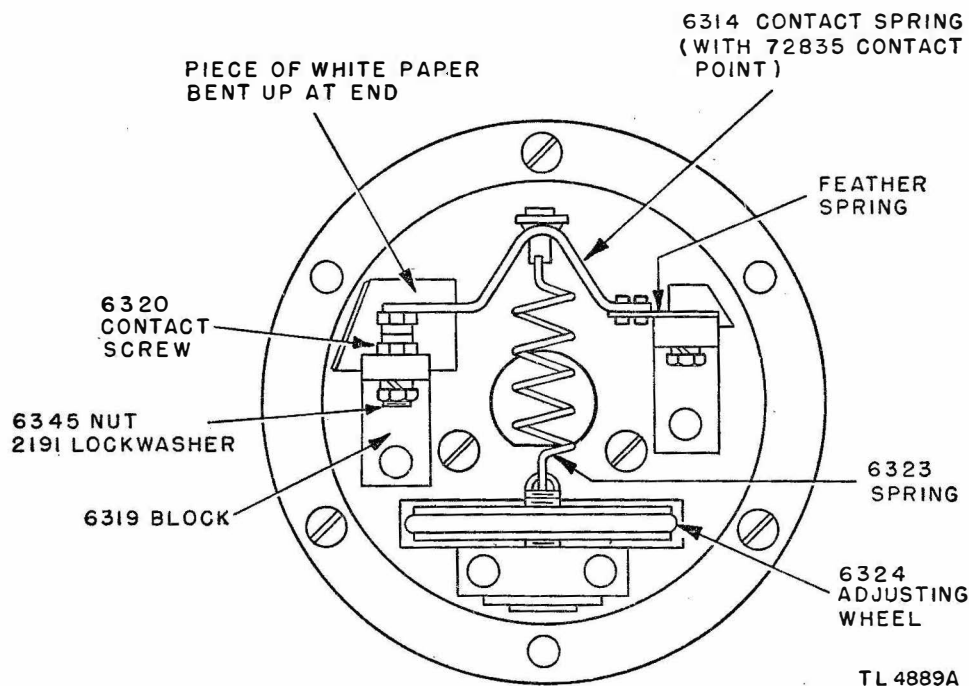
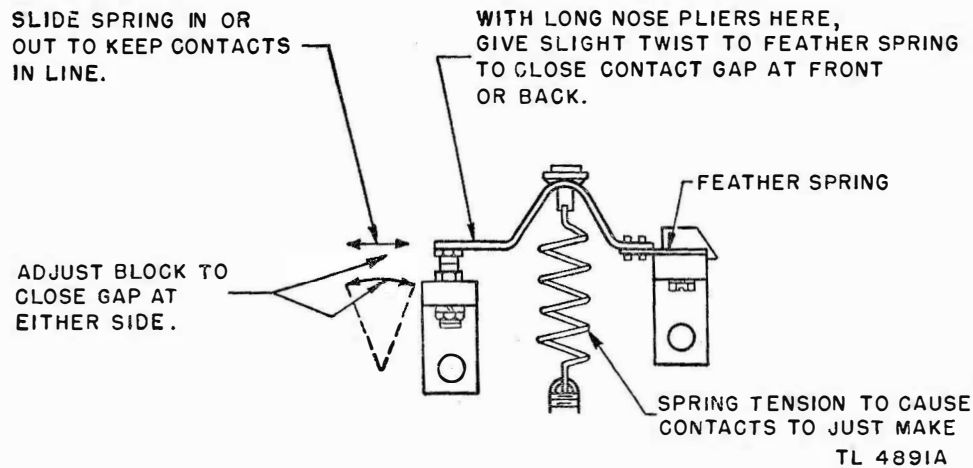

Figure 42. Governor, internal view.
Figure 44. Positioning governor contacts
- (3) Remove the screw which holds the governor to the motor shaft and slip off the governor.
- (4) Remove the screws which secure the target and governor cover and remove the target and the cover.
- (5) Unhook the No. 6323 spring.
- (6) Loosen the screw which clamps the feather spring on the end of the No. 6314 contact spring (fig. 42) and lift the contact spring out of the governor shell.
- (7) Remove the nut and lockwasher on the No. 6320 contact screw (fig. 42) and lift out the contact screw.
- (1) Place the No. 6320 contact screw in the hole in its mounting block. Put a No. 2191 lockwasher and a No. 6345 nut on the end of the contact screw. Tighten the nut securely.
- (2) Place the feather spring of the No. 6314 contact spring under the clamp on its mounting block and tighten the clamp screw until the contact spring is held friction-tight. The contact should remain slightly separated (about .005 inch).
- (3) Hook the No. 6323 spring onto the contact spring and turn the adjusting wheel until all tension is released. Contacts should return to the slightly separated position.
- (4) Insert a piece of white paper behind the contacts (fig. 42).
- (5) Illuminate the contacts with a flashlight or other small lamp and turn the adjusting wheel until the contacts just touch.
- (6) Slide the contact spring to the right or left until the sides of the upper and lower contact points are in line. If a gap can be seen on either side of the contacts, loosen the contact mounting block retaining screw and move the top of the block to the right or left. At the same time shift the contact spring to keep the contact points in line (fig. 44). Tighten both the contact spring clamp screw and the contact mounting block retaining screw.
- (7) If gaps at the front or back of the contacts are noticed, use long-nosed pliers to twist the feather spring on the end of the contact spring (fig. 44). Repeat any of the operations that may be required until the contacts meet all the requirements for position.
- (8) Turn the adjusting wheel so that the tension of the No. 6323 spring is near the midpoint of its range.
- (9) Reassemble the governor cover and the target on the governor and remount the governor on the motor.